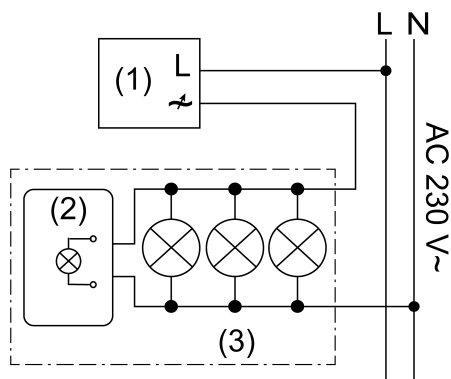
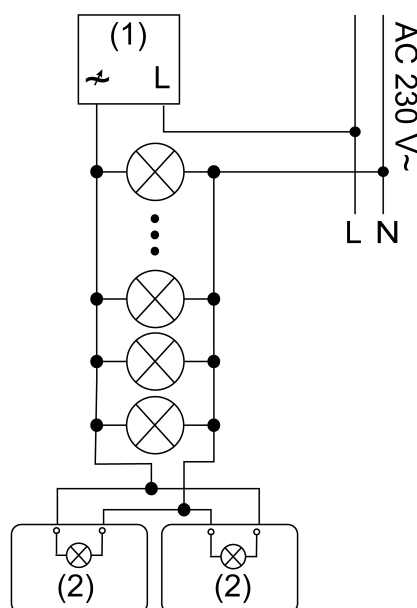

Figure 1: Example for connection in luminaire housing
Figure 2: Connection example with two modules
- (1) Dimmer in trailing edge phase control operation
- (2) Module
- (3) Luminaire with HV-LED lamp
- Connect the module to neutral conductor and to the dimmed phase, parallel to the HV-LED lamp, (Figure 1) example for connection in luminaire housing, (Figure 2) connection example with two modules.